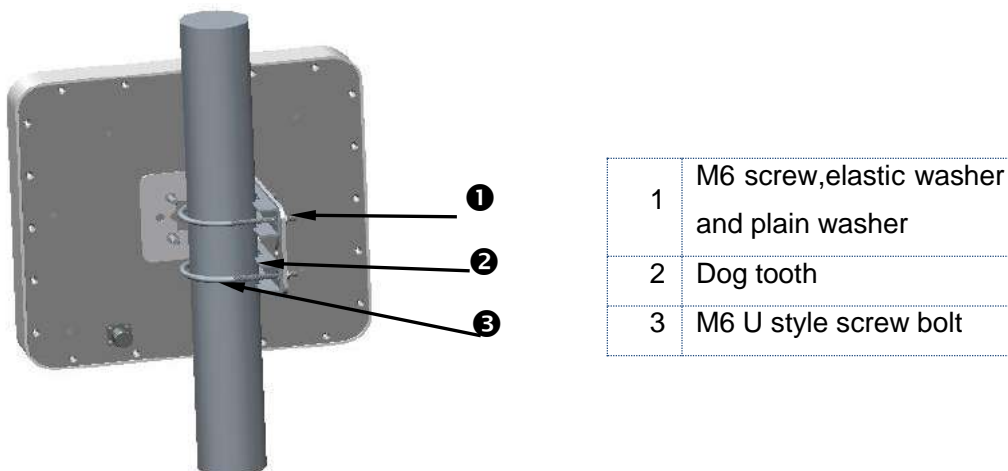

Figure 6 The structure for the Step 2 in the second case
Step 2: Please use M6 screw, elastic washer and plain washer and “Dog tooth” to fix it on the horizontal and vertical bracket, as shown in Figure 6.